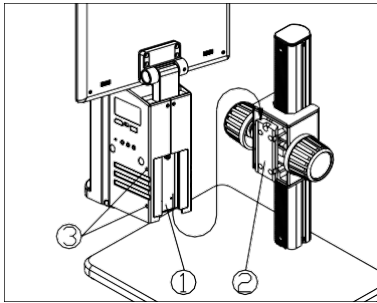

Fig. 1
- 1) Match the dovetail interface ① of the microscope body with the dovetail groove ② of the focus bracket group, and insert it from top to bottom as the direction shown in the figure.
- 2) Tighten the inner hex screw on the body group ③ with the included hex wrench. (See Fig. 1)